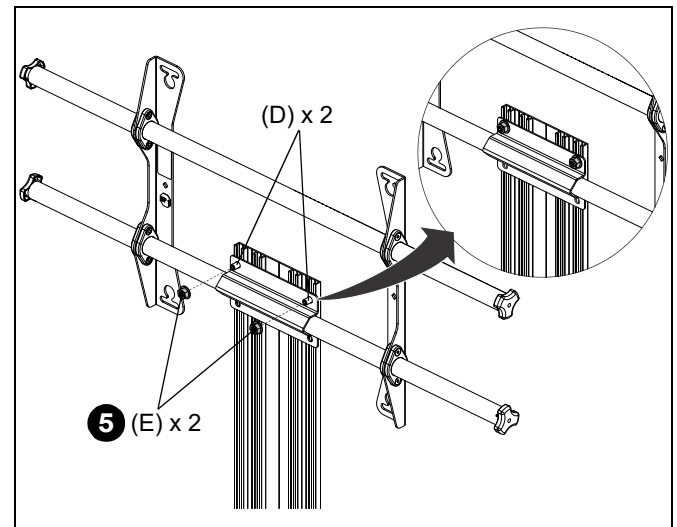

Figure 4
5. Loosely install two M8 flange nuts (E) to the ends of the M8 x 20mm screws (D). (See Figure 4)